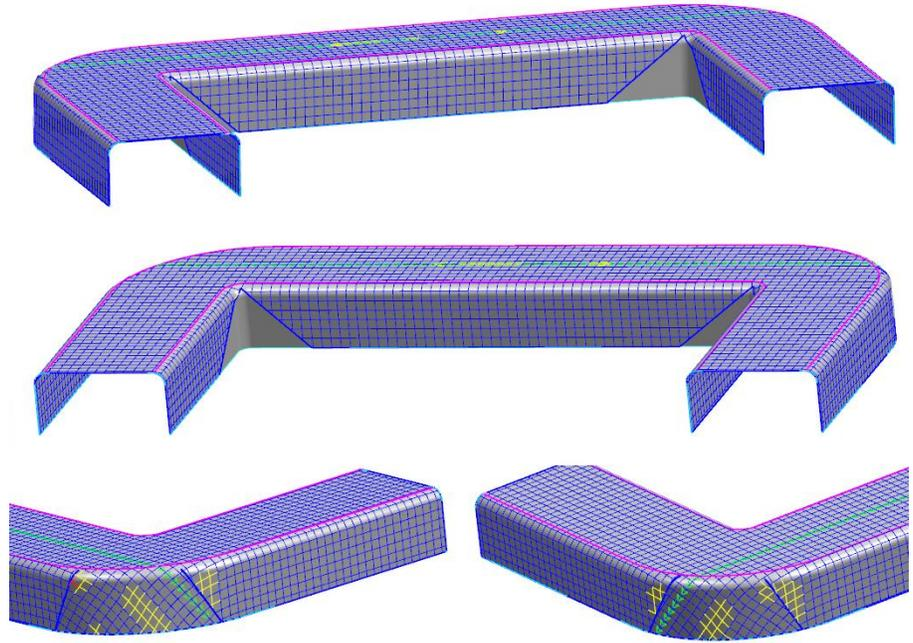

Figure 4–85
2. The producibility and flat pattern of an acceptable simulation is shown in Figure 4–86.